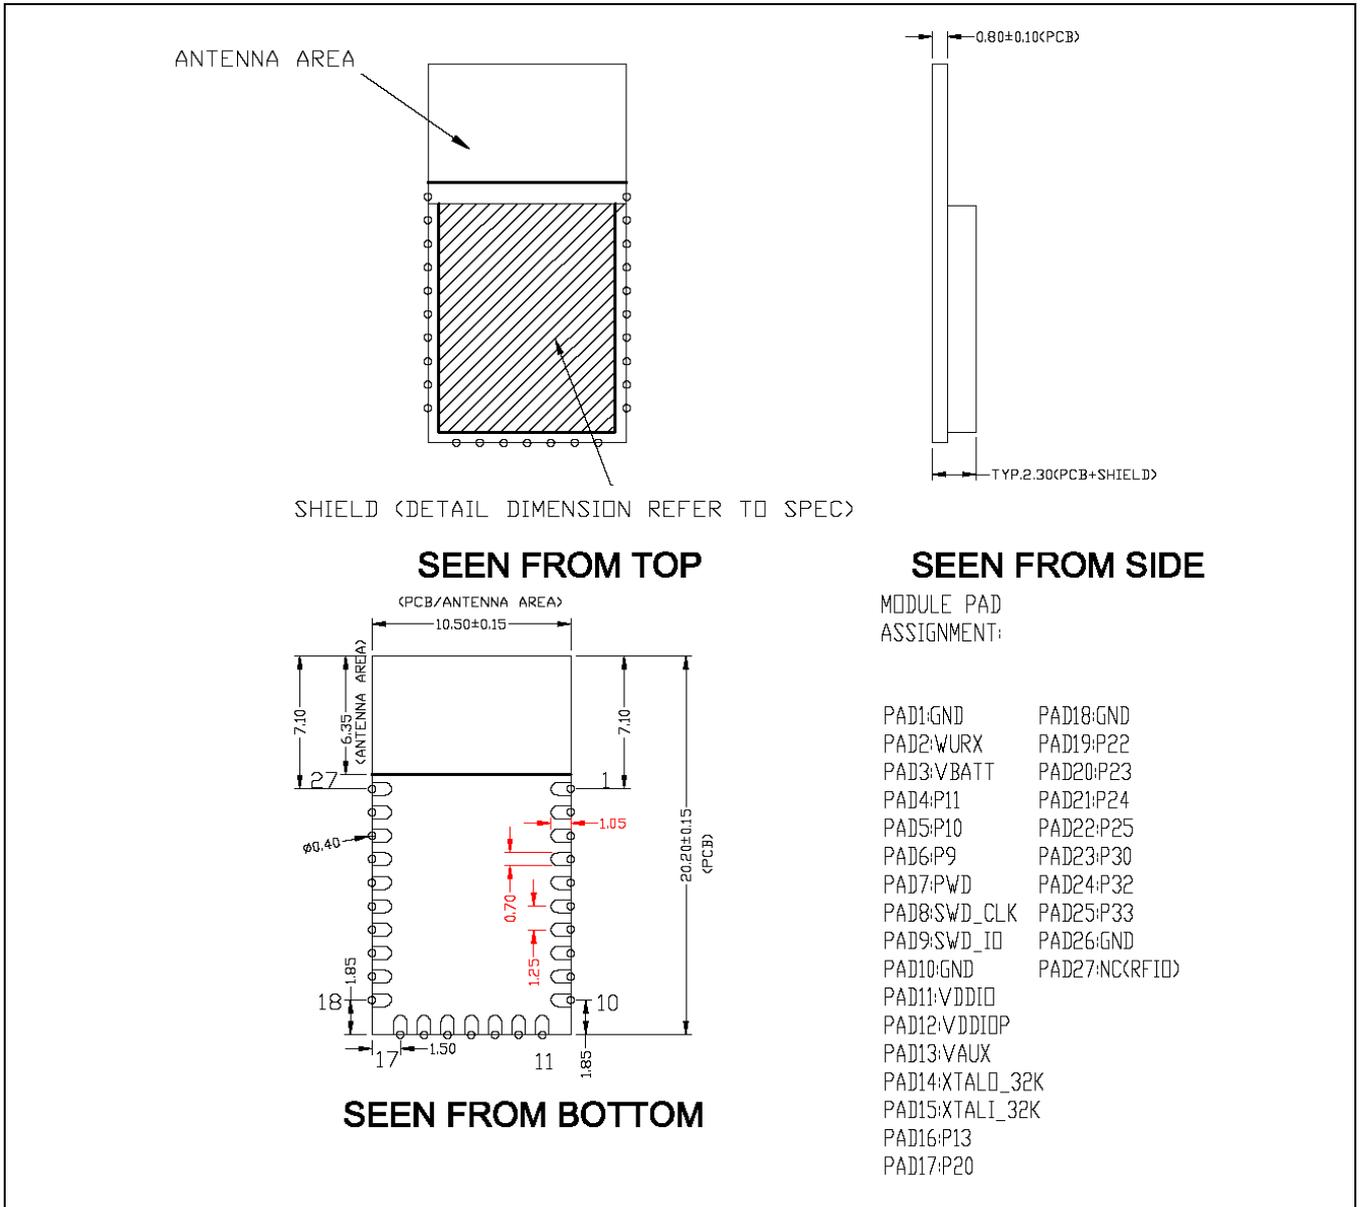
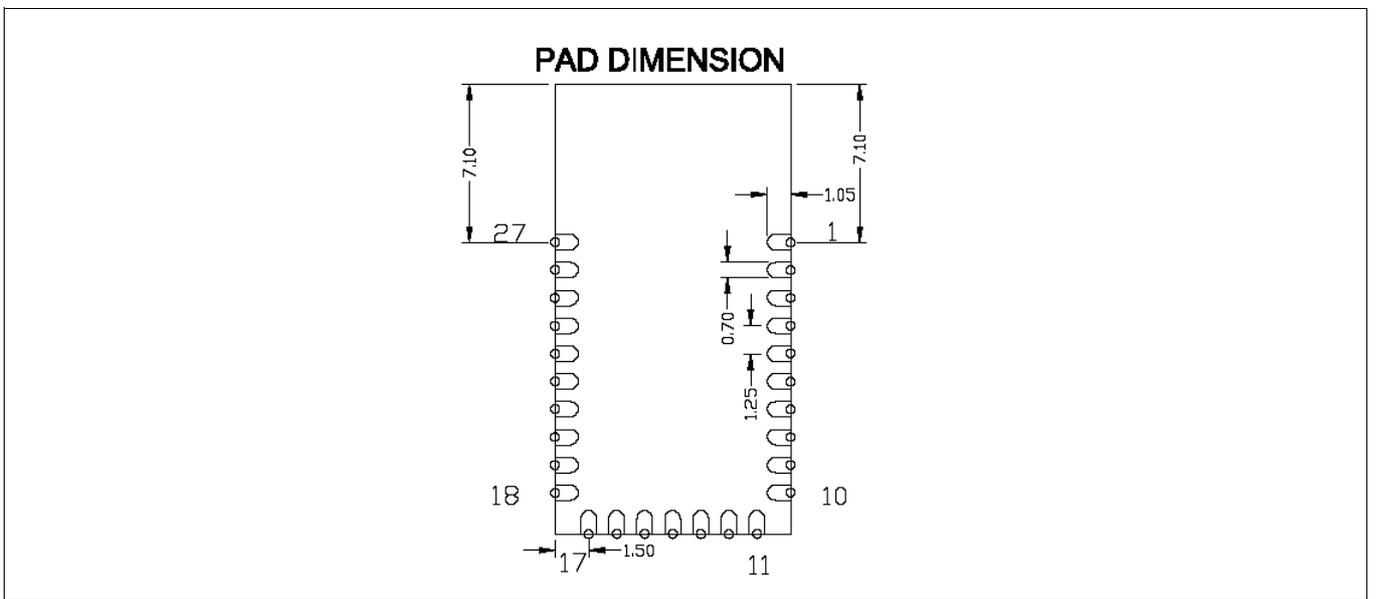

Figure 2 **Module mechanical drawing**
Figure 3 Solder pad dimensions (seen from bottom)
Infineon reserves the right to select components from various vendors to achieve the Bluetooth® module functionality. Such selections will still guarantee that all mechanical specifications and module certifications are maintained. Designs should be held within the physical dimensions shown in the mechanical drawings in Figure 2. All dimensions are in millimeters (mm).
See **Figure 2** for the mechanical reference drawing for CYW20822-P4xxI040.
As shown in the bottom view of **Figure 2**, the CYW20822-P4xxI040 connects to the host board via solder pads on the backside of the module. **Table 2** and **Figure 3** detail the solder pad length, width, and pitch dimensions of the CYW20822-P4xxI040 module.
1. Antenna Area Keepout: The host board directly below the antenna area of the module (see **Figure 2**) must not contain ground or signal traces. This keepout area requirement applies to all layers of the host board.
2. Module Placement: The ideal placement of the Bluetooth® module is in a corner of the host board with the PCB trace antenna located at the far corner. This placement minimizes the additional recommended keepout area stated in item 2. Refer to **AN96841** for module placement best practices.